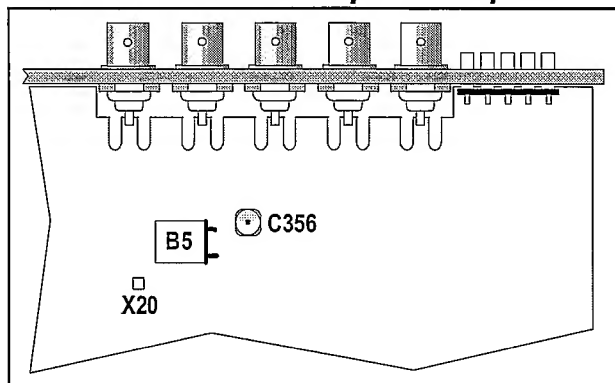

Figure 6-2 Trimmers for the 10 MHz Frequency Multiplier.
- Adjust C356 to maximum amplitude. See Figure 6-2.